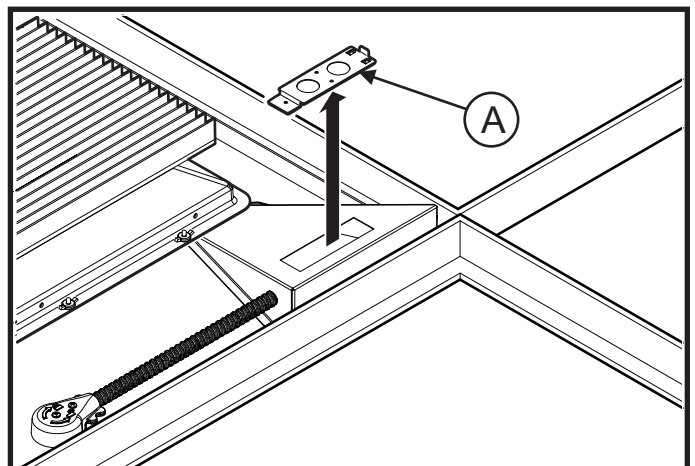

Figure 2
4. Remove junction box door (See "A" on Figure 2).